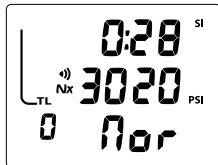

Fig. 15A - NOR SURF MAIN
**NOR SURF MAIN**, information includes (Fig. 15A/B):